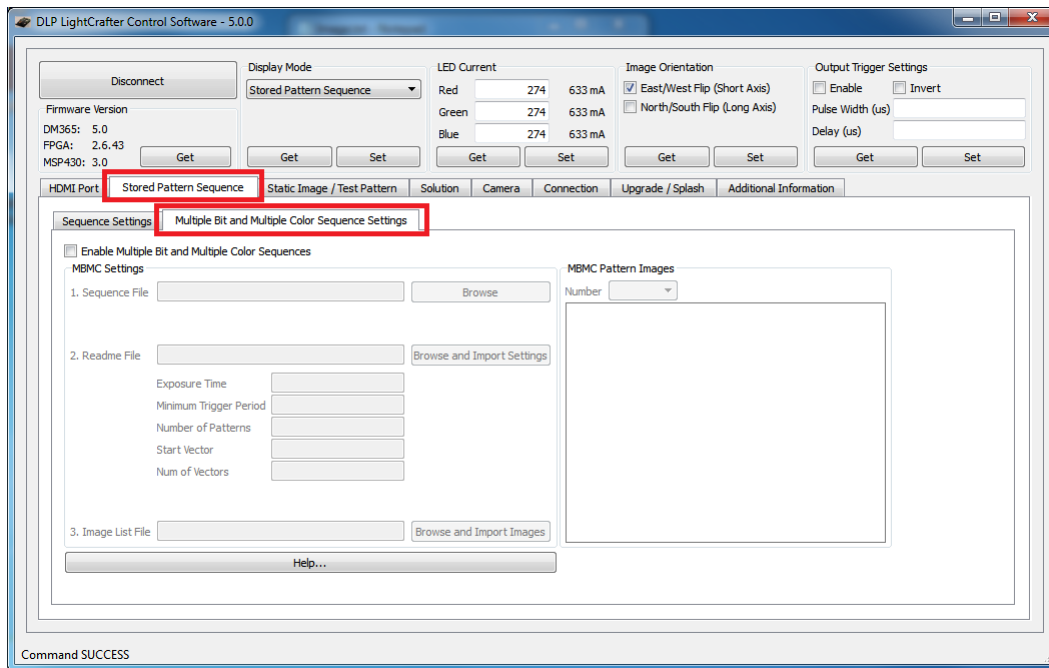

Figure 2-45. DLP LightCrafter GUI Multiple Bit and Multiple Color Sequence Settings Tab in Stored Pattern Sequence Tab
4. Select "Stored Pattern Sequence" tab and "Multiple Bit and Multiple Color Sequence Settings" tabs. See Figure 2-45.